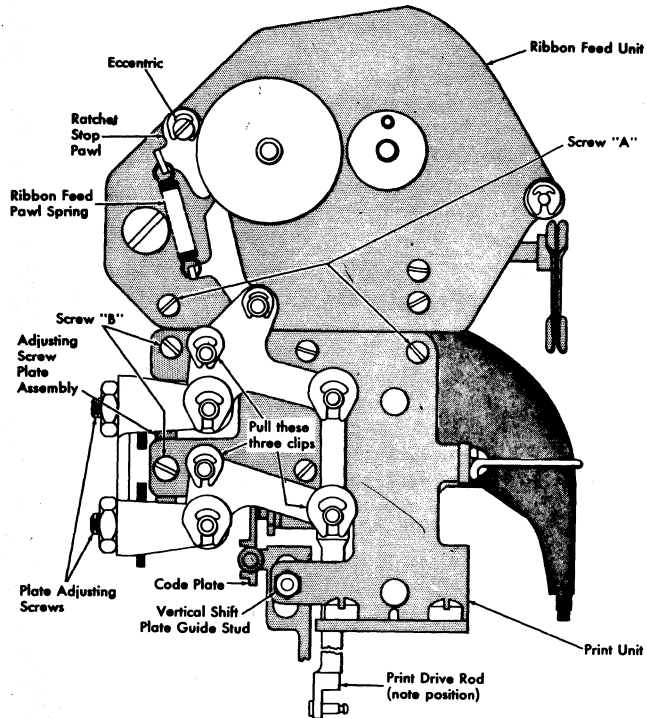

Figure 89. Print Head Removal
5. Pull print drive rod (Figure 89) out of print arm. (On some units, it may be easier to remove right horseshoe clip and slide drive rod over, instead of disconnecting drive rod from stud.) Remove the four screws holding print head
1. Pull three clips (Figure 89) and withdraw the three shafts.
3. Remove the two screws (B, Figure 89) from each side. Note that adjusting screw plate assembly will pivot slightly about its two dowel screws.
screws (A, Figure 89) from each side.